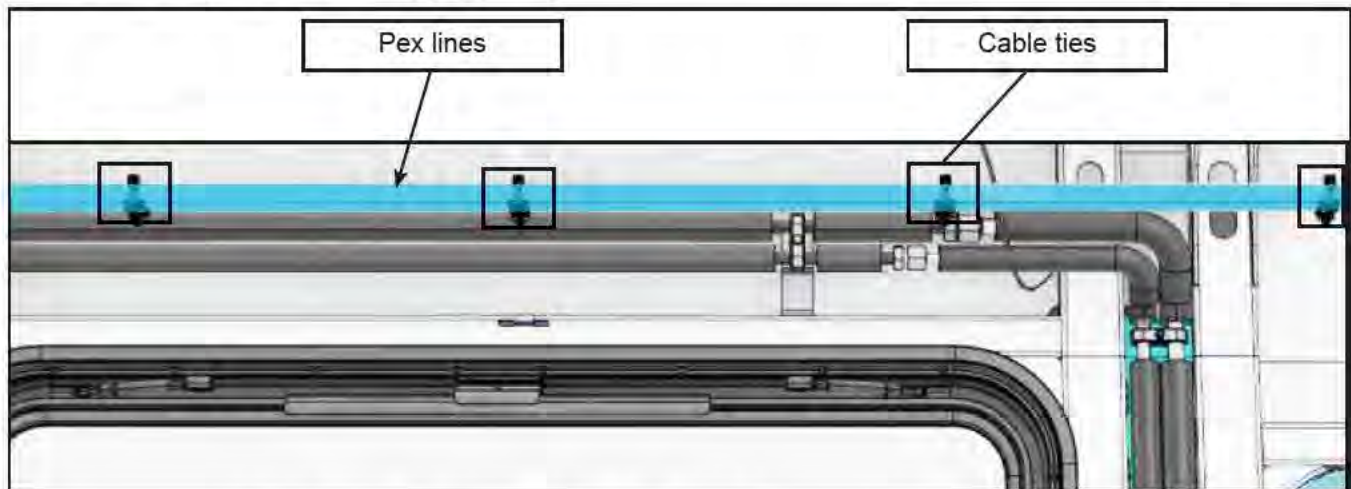

Figure 10 - Pex Lines - Cable Ties to Remove (Components Omitted for Clarity)
- 1.18. To access the hydraulic pipe N77549-01 connection, cut cable ties securing the Pex Pipes to their support bracket to move them away (Figure 10).
- 1.33. Reposition the Pex lines and secure with the cable ties G5007996 (ref. Figure 10).